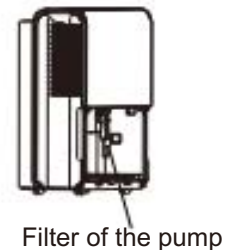

Fig. 12
-Remove the bucket from the unit, take down the pump and clean the filter of the pump (See Fig.12).